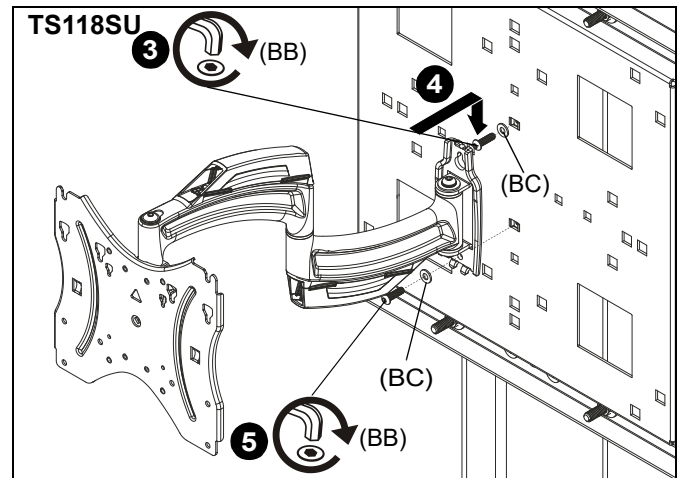
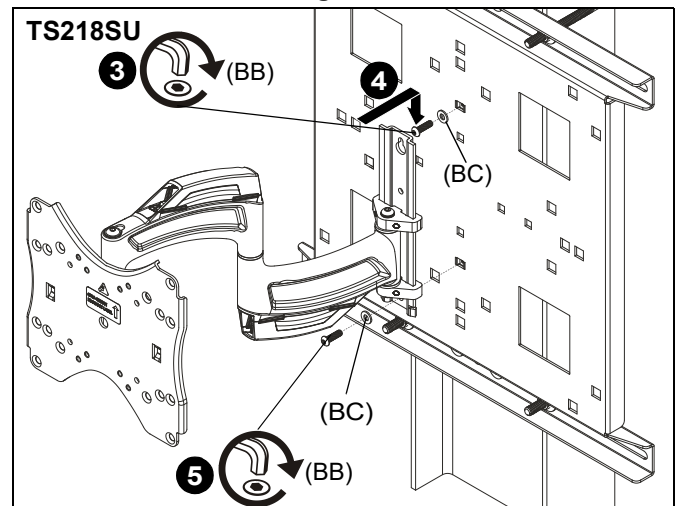
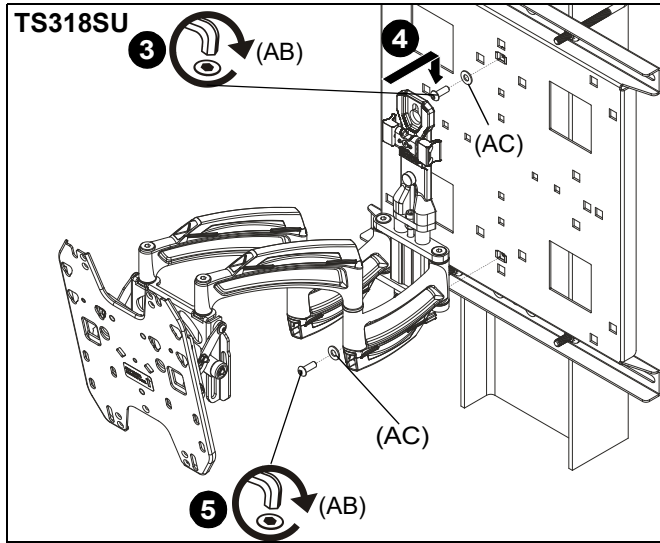
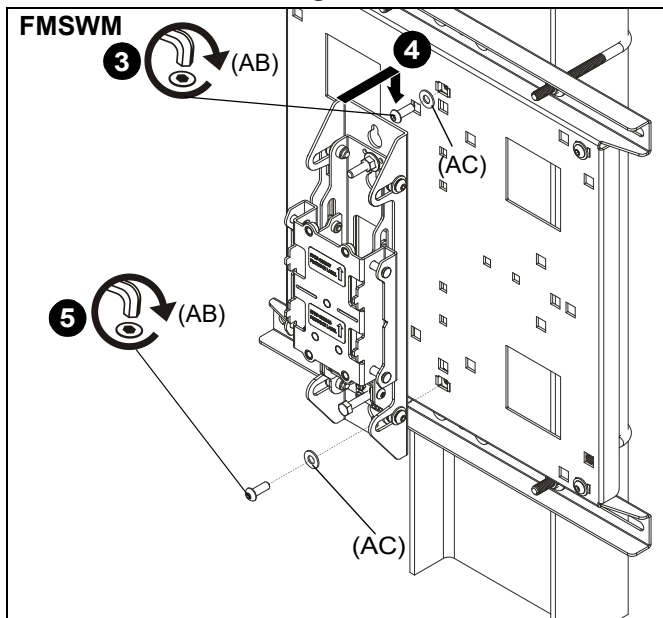

Figure 2
Figure 3
Figure 4
Figure 5
2. Install mounting plate (C) onto column or pipe referring to installation instructions for (FCAVCSU80 or FCAVCSU20) mounting accessory.
3. Loosely install appropriate hardware (AA and AB) or (BA and BB) to upper cage nut installed in Step 1. (See Figure 2) or (See Figure 3) or (See Figure 4) or (See Figure 5)
4. Hang mount onto loosely installed screw and tighten screw. (See Figure 2) or (See Figure 3) or (See Figure 4) or (See Figure 5)
5. Use appropriate hardware (AA and AB) or (BA and BB) to secure mount to lower cage nut installed in Step 1. (See Figure 2) or (See Figure 3) or (See Figure 4) or (See Figure 5)